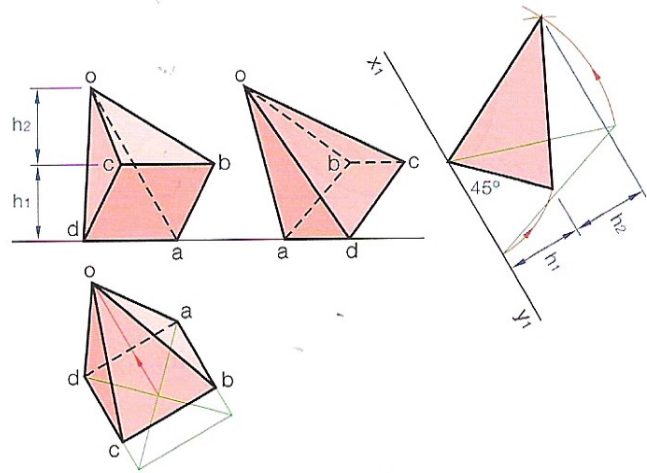

Fig. 5.9
- (1) Draw the given plan. Edge ad will form the axis of rotation for the solid.
- (2) Draw an auxiliary view of the pyramid looking along the line ad . Rotate the pyramid in this view about ad which is a point of view.
- (3) Project the rotated pyramid to plan. Remember the points more perpendicular to the axis of rotation in plan.
- (4) The front elevation is projected, with the heights being taken from the auxiliary, Fig. 5.9.